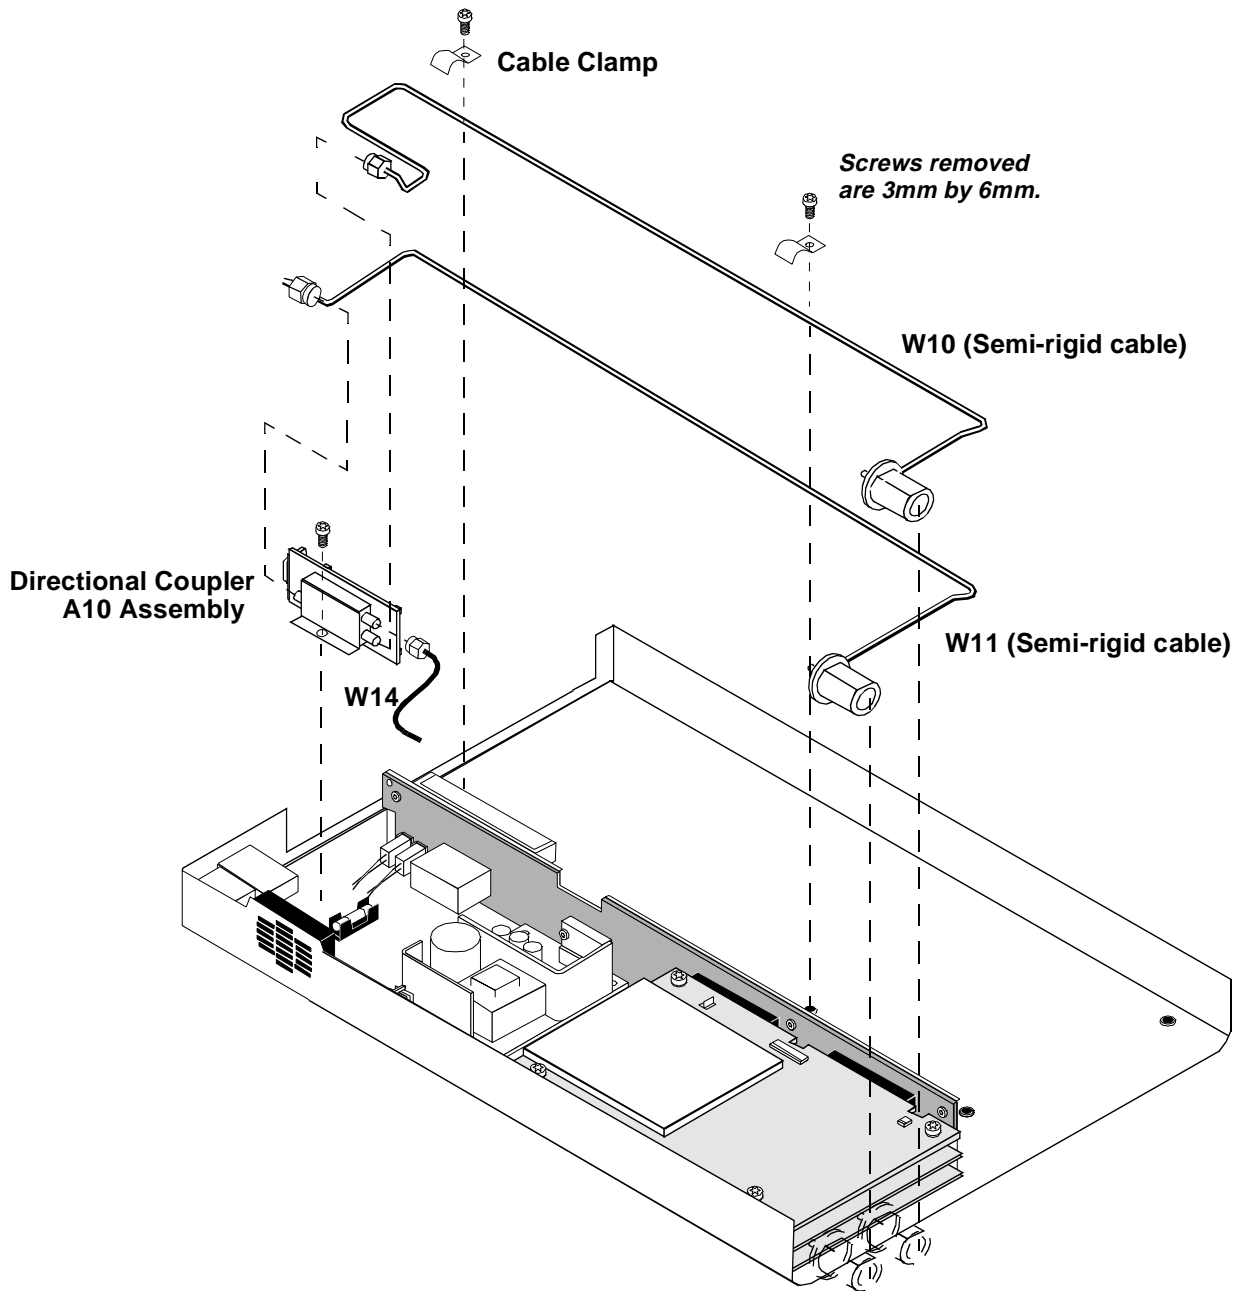
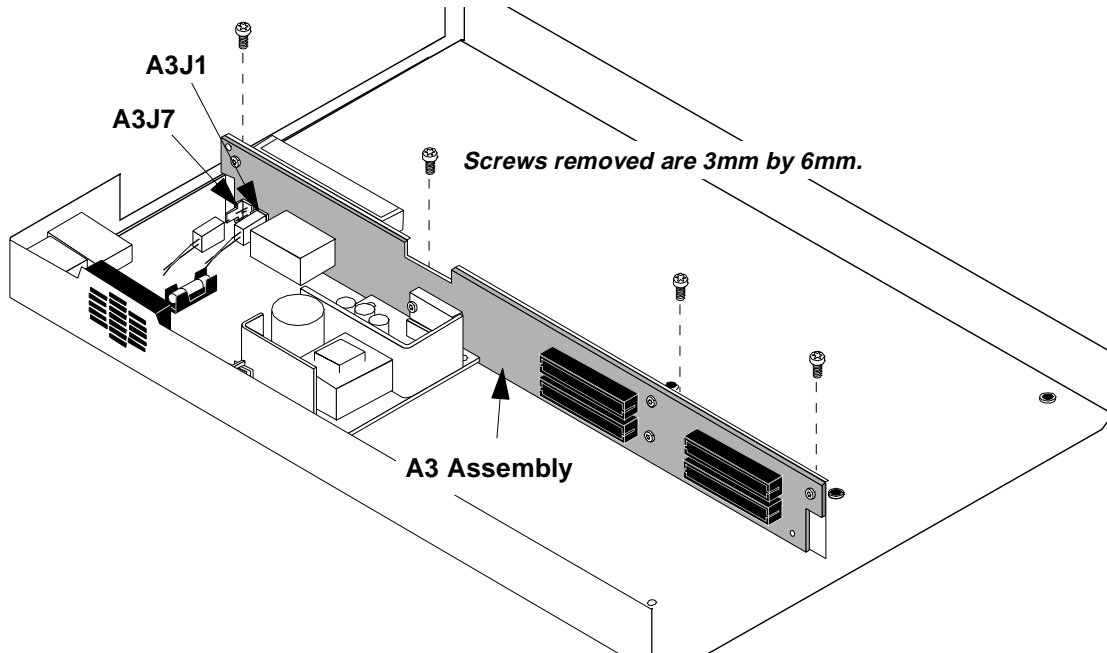

Figure 31 Removing the A10 Assembly & Semi-rigid Cables
Figure 37 Removing the A3 Assembly
6. To remove the semi-rigid cables, remove the cable clamps securing W10 and W11 semi-rigid cables to the chassis, see figure 31 on page 92.
7. To remove the A10 assembly, remove the screw securing the A10 assembly to the deck, see figure 31 on page 92.
8. Remove the power connectors from the J7 and J1 connectors on the A3 assembly, see figure 37.
9. If the Cellular Adapter is an Option 001, remove the 4 screws securing the A3 assembly to the deck, see figure 37. If the Cellular Adapter is an Option 002 or 003, two of the screws secure the CDPD semi-rigid cables to the deck, see figure 31 on page 92.